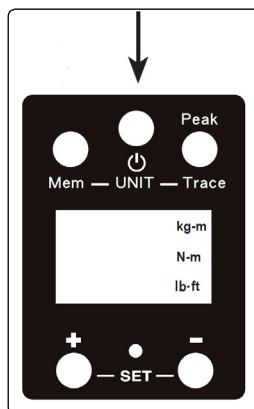

fig.7
- 4.7.1. If the digital torque adaptor is not used for 70 seconds, it will automatically switch off, otherwise manually turn it off by pressing and releasing the power button (fig.7).